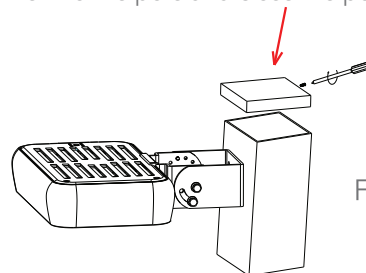

Figure 16
5. Put the wire into the pole and close the pole cap (figure 16)